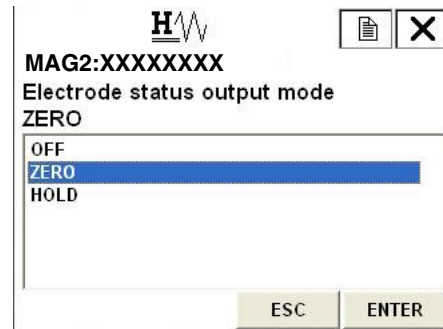

Figure 87.
Figure 87 is then displayed.
2. Once the display as shown in Figure 87 appears, move the arrow key up or down to select an Electrode status output mode. After marking a selection, press F4 (ENTER). OFF, ZERO, or HOLD can be selected. If F3 (ESC) is pressed here, the selection is canceled and the display returns to the Noise immunity menu.